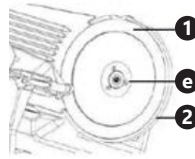

Fig. 7
- In order to remove the knife, loosen three adjustment screws (e) with the use of an appropriate screwdriver (fig. 7) and carefully take the knife away.